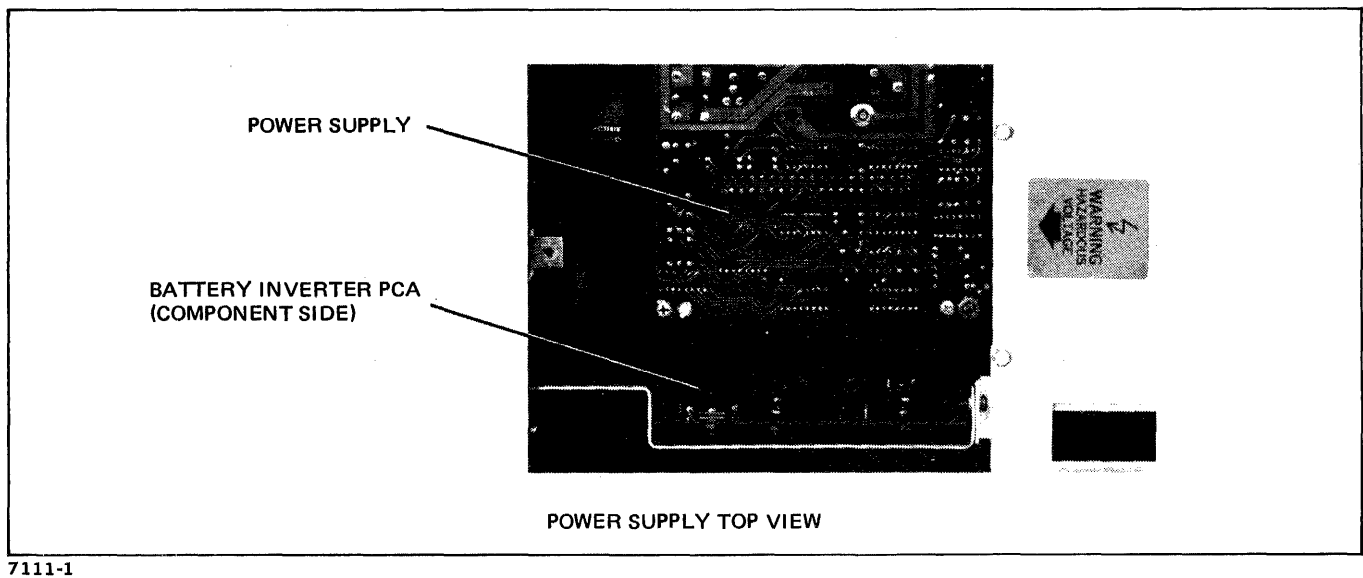

Figure 1. PCA Installation
- b. Slide top cover back and insert battery inverter PCA in the PCA slot on the lower power supply PCA. Observe component side orientation of the PCA as shown in figure 1. Replace top cover.
- b. Remove top cover and insert battery inverter PCA into the PCA slot on the lower power supply PCA. Observe component side of the PCA as shown in figure 1.